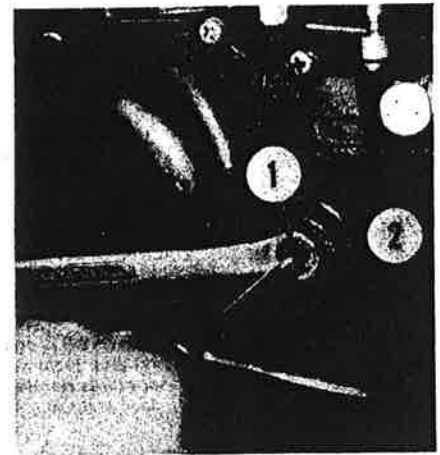

Fig. Y19-11-View of clutch adjuster used on some models. Turn screw (2) in until a resistance is felt then back out 1/4 turn and tighten lock nut (1).
To adjust units with internal lever arm (Fig. Y19-30), back clutch cable adjusters off and loosen lock nut (1—Fig. Y19-11). Turn adjusting screw (2)